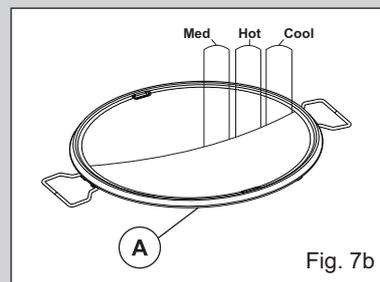

Fig. 7b
- Cooking temperatures are easily adjusted to suit your own requirements by turning the Control Knob (K) to regulate the degree of heat. A feature of the Skottel BBQ is that it offers various heat zones (See Fig.7b). This is very useful as some foods cook quicker than others and the food that is ready first, can be moved to the cooler areas of the dish to keep warm whilst the balance of the food is still cooking.